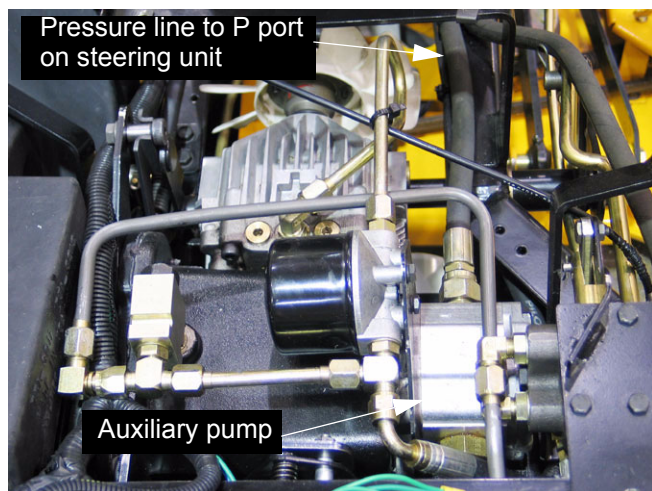

Figure 6.2
- 6.2. Series 5000 tractors come with a single auxiliary pump mounted to the right side of the transmission. See Figure 6.2.